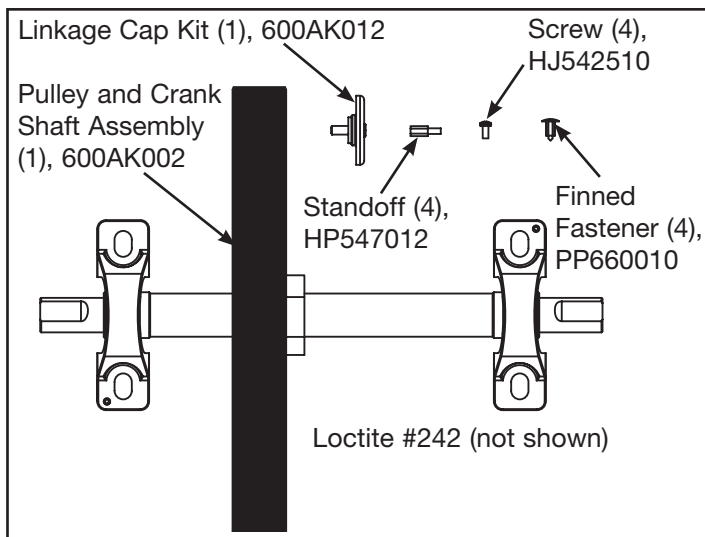

Figure 1
- B.** Verify kit contents. See Figure 1.